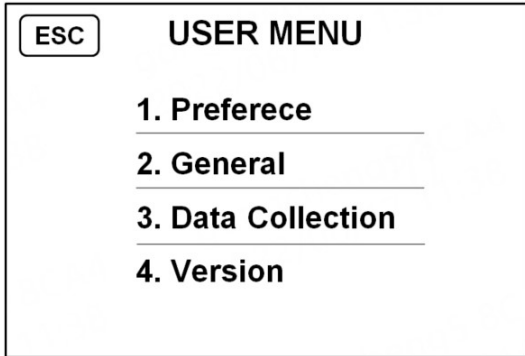
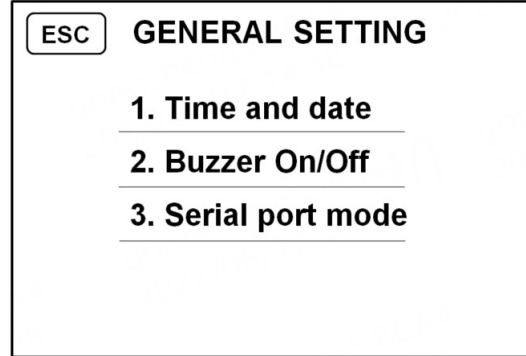

Figure 26
Figure 45
1) Press the **"MENU"** key to enter the USER MENU main interface, as shown in Figure 26 below. Touch "2. General" to enter the GENERAL SETTING interface as shown in Figure 45 below: